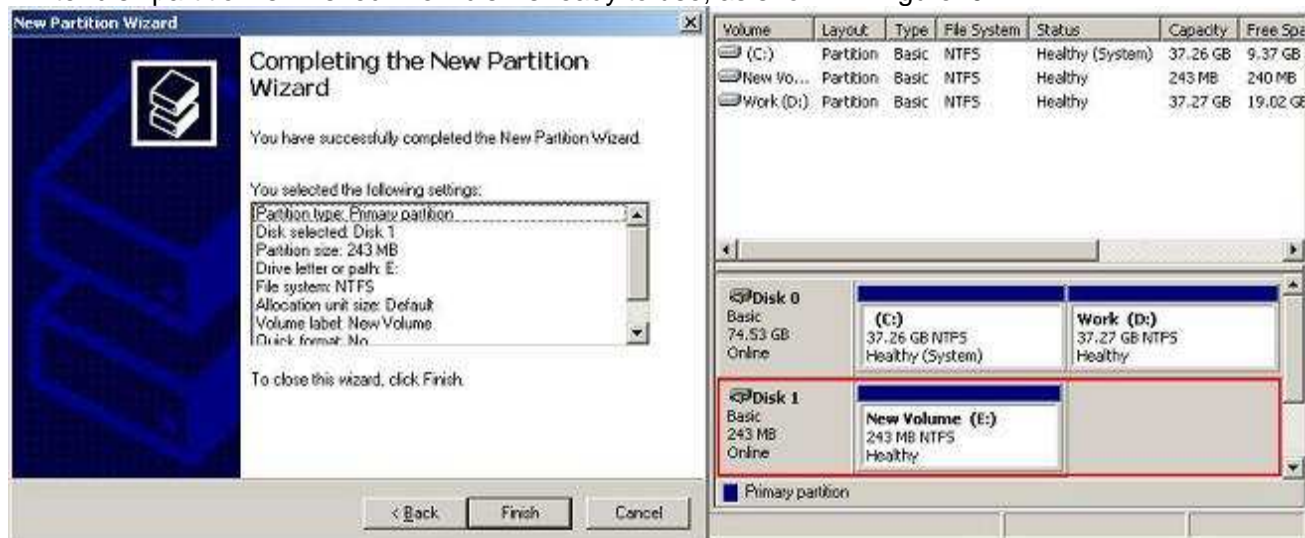

Figure10 New disk is ready
- After disk partition is finished. New disk is ready to use, as shown in Figure10.